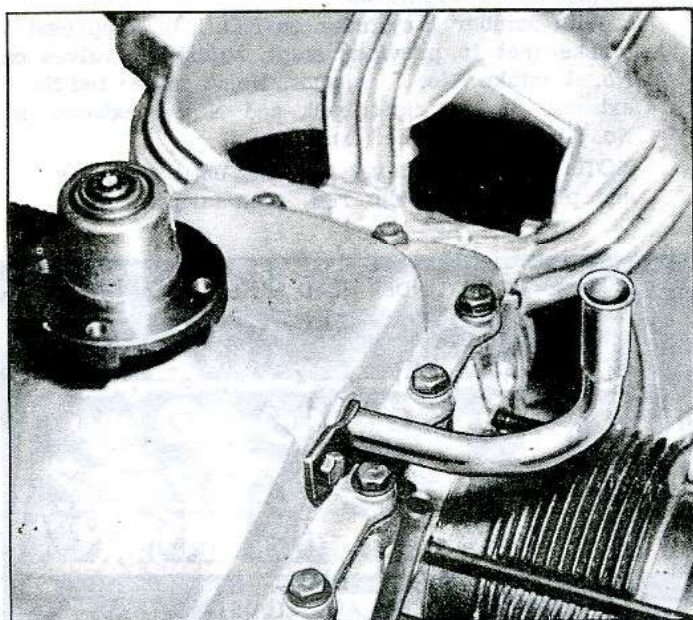

Fig. 67—Crankcase Vent Tube
18. Using a new "O" ring seal, install crankcase vent tube then bracket and torque to specifications (fig. 67).